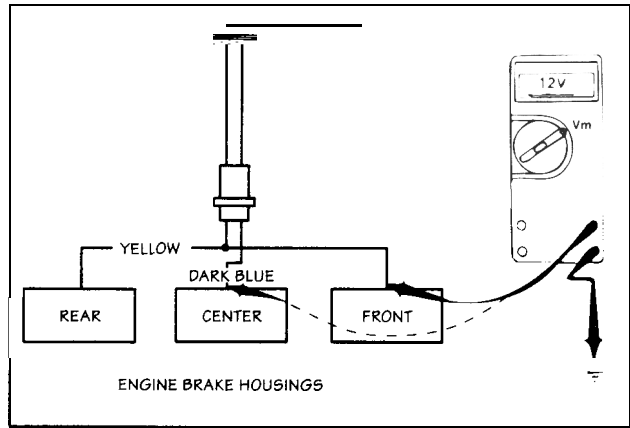

FIG. 1.1.26
**Correction:** Inspect DK BLUE and YELLOW wires leading to solenoid valve connectors. Check for loose contacts, pinched wires or scraped insulation. Start the engine, turn the engine brake switch ON and select HI. Advance the throttle to rated speed and then release the throttle. Voltage at both YELLOW and DK BLUE wires should measure +12 VDC (Fig. 1.1.26).